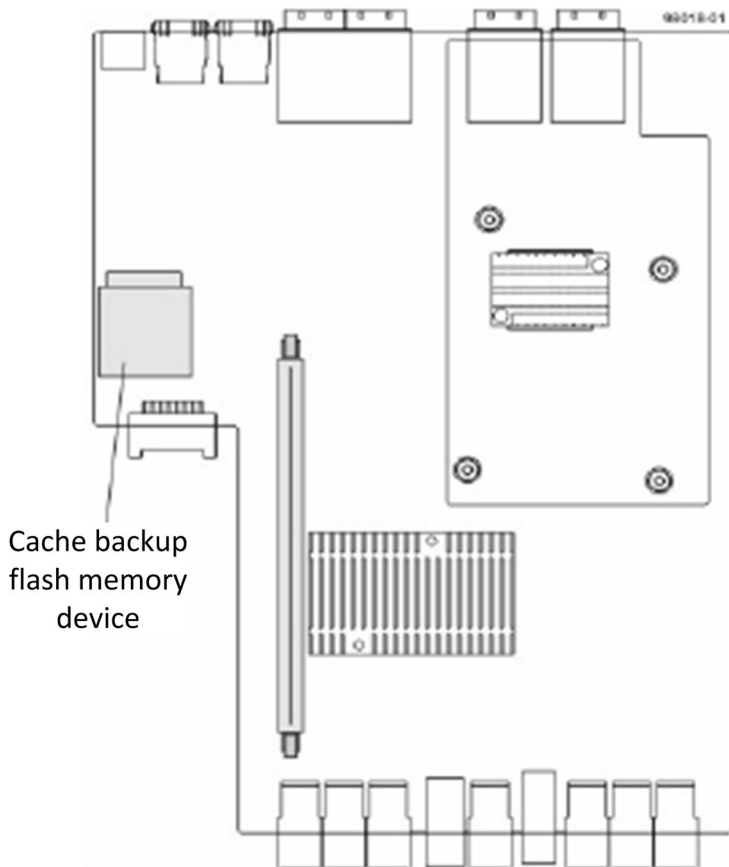

Figure 63. Cache backup flash memory device location
12. Remove the cache backup flash memory device from the controller and install in the new controller. Figure 63 shows the location of the of the cache backup flash memory device on controller board.